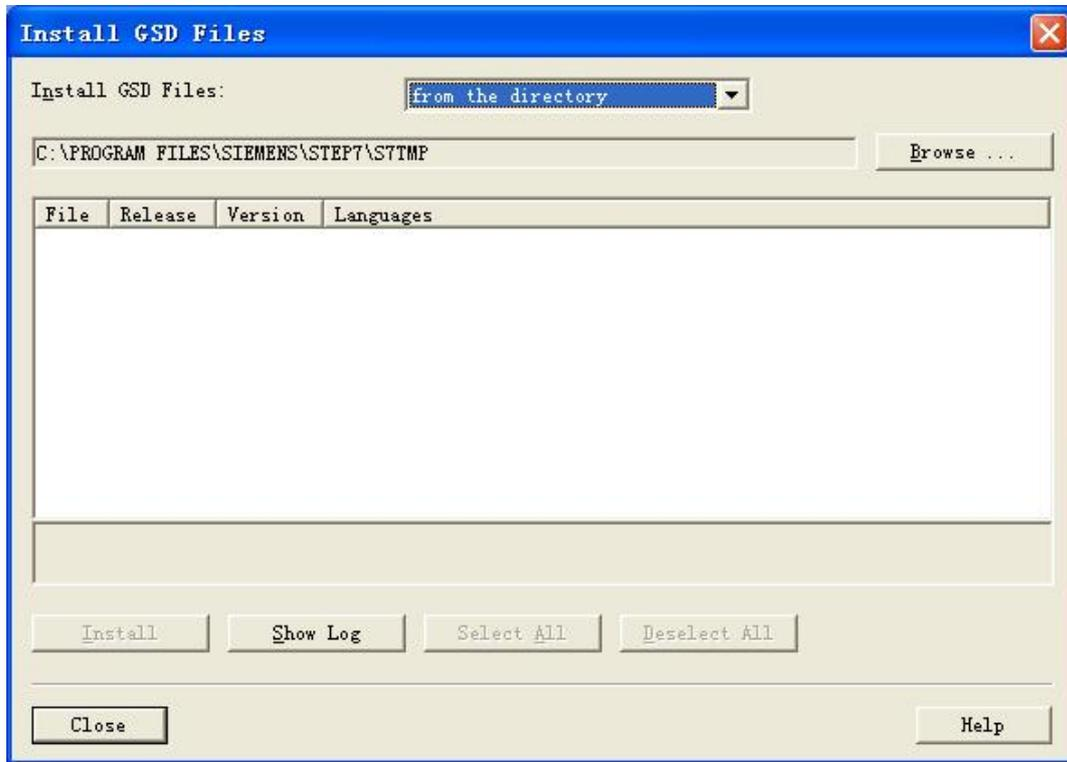

Figure 4.1 Import GSD file window
1) Take Siemens STEP 7 Software as an example, choose any project, open hardware configuration, choose “Options→Install GSD File...”, and it will open the GSD file window, as shown in Figure 4.1: